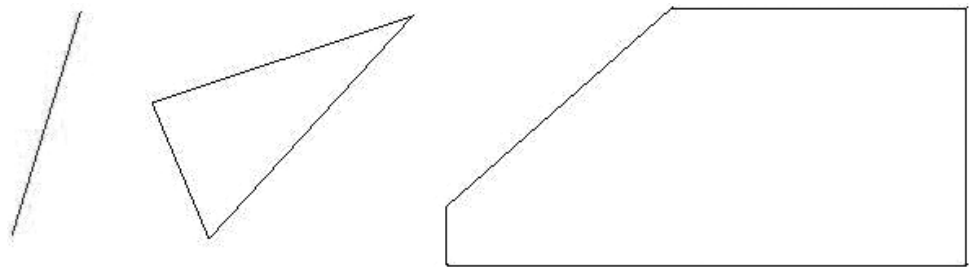

Figure 3-19 Sketch Lines
Step 4: Use  to draw Figure 3-19. Do not concern yourself with the size or dimensions of the sketch.